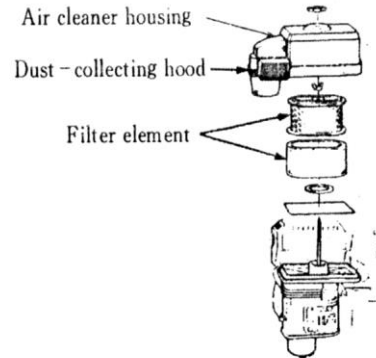

Fig. 9
2. Dust – collecting type (Fig. 9)